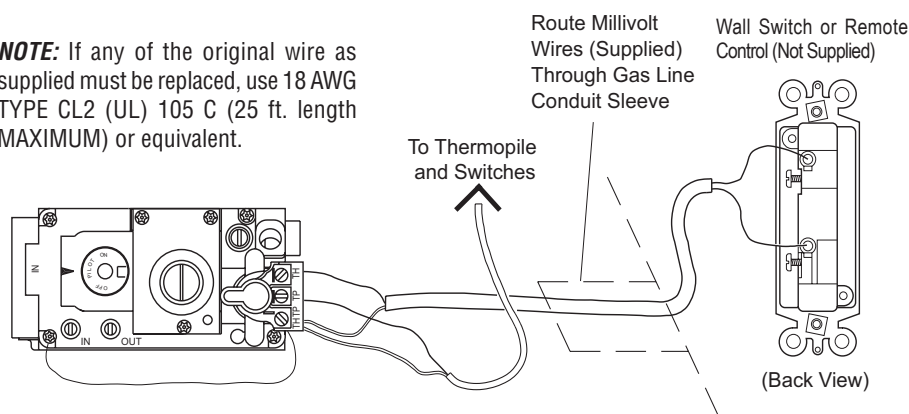
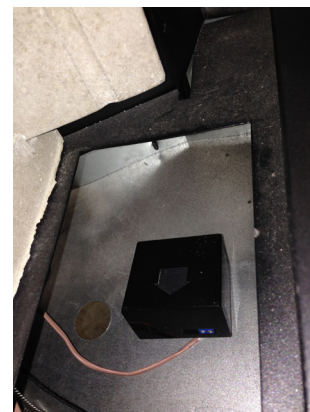

Figure 14 - Wall Switch Wiring Diagram
Figure 14B - Remote Receiver on Firebox Bottom
2. Locate brown "wall switch wire" that is connected to the valve. Strip the ends of the brown wire to expose one red and one white wire. These wires shall be connected the remote receive box or wall switch (figures 14 & 14A). The remote receiver can be placed either in the bottom of the firebox (figure 14B) or mounted in a convenient location on the wall.